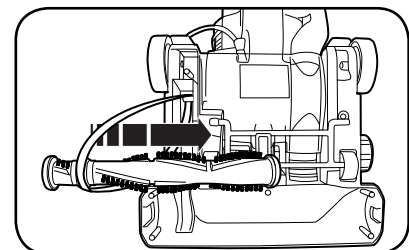

Fig. 4
3. Loop the new belt around the drive shaft (Fig. 3) and the raised ring between the bristles on the brushroll (Fig. 4).